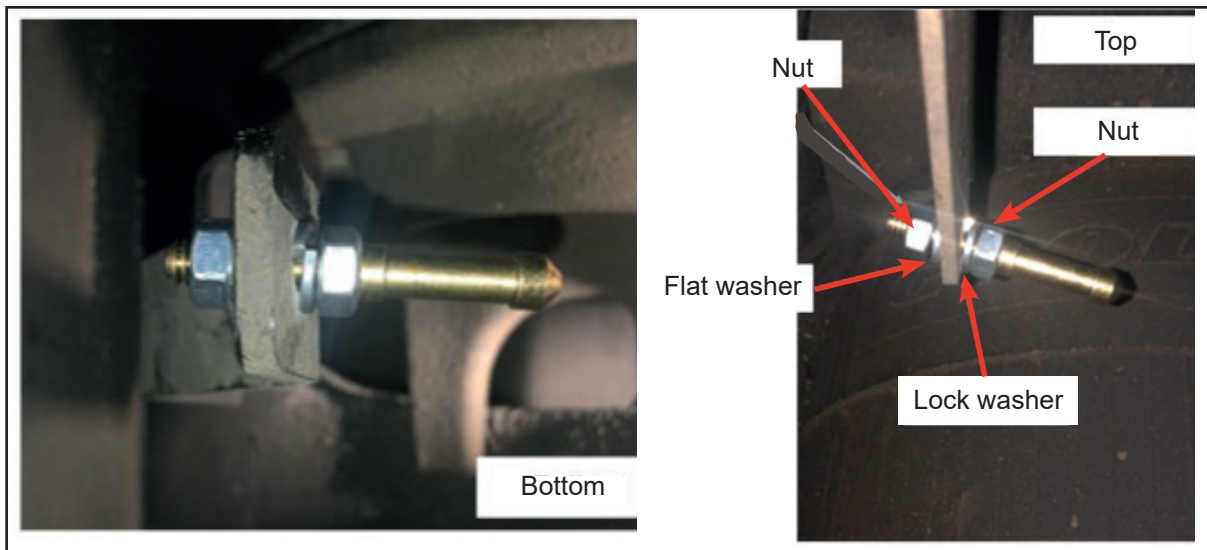

Figure 22 - Installation of Support Rod and Hardware
1.47. Install the support rod and hardware for top and bottom (See Figure 22).